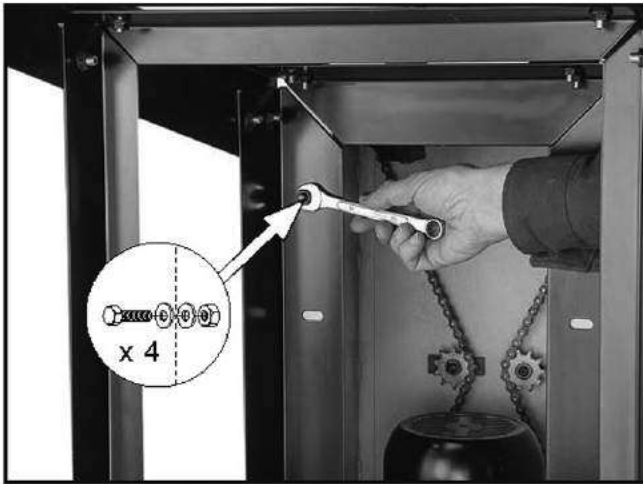

Figure 10. Mounting sander to stand.
12. Secure stand to sander with (4) M8-1.25 x 20 hex bolts, (8) 8mm flat washers, and (4) M8-1.25 hex nuts (see **Figure 10**).